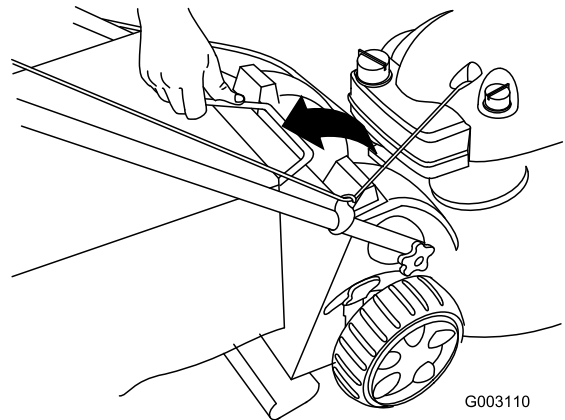

Figure 27
2. Lift the grass bag handle out from the grooves at the top of the mower and remove the bag from the mower (Figure 27).